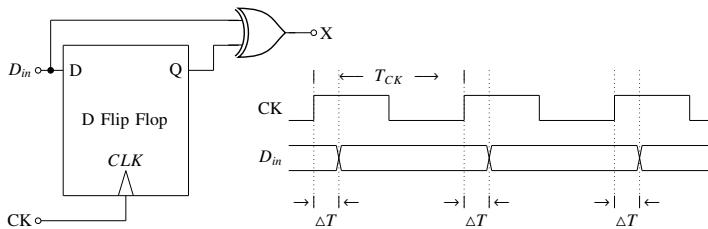

Fig. 5.22
22. In the circuit shown below, a positive edge-triggered  $D$  Flip-Flop is used for sampling input data  $D_{in}$  using clock  $CK$ . The  $XOR$  gate outputs 3.3 volts for logic HIGH and 0 volts for logic LOW levels. The data bit and clock periods are equal and the value of  $\Delta T/T_{CK} = 0.15$ , where the parameters  $\Delta T$  and  $T_{CK}$  are shown in Fig. 5.22. Assume